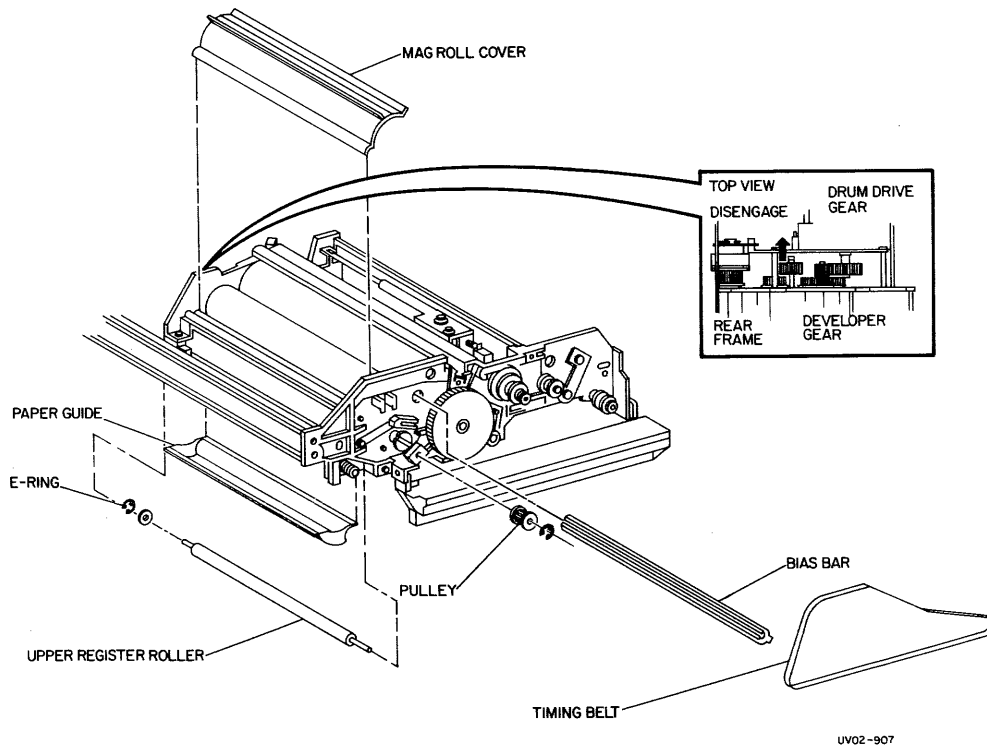

Figure 3-3. Developer Removal
2. Disengage the Developer Drive gear (Figure 3-3).